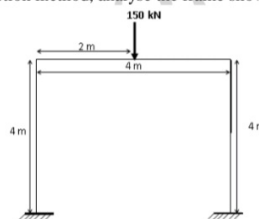

Fig. 6
7. Using the slope-deflection method, analyse the frame shown in Fig. 6. [15]